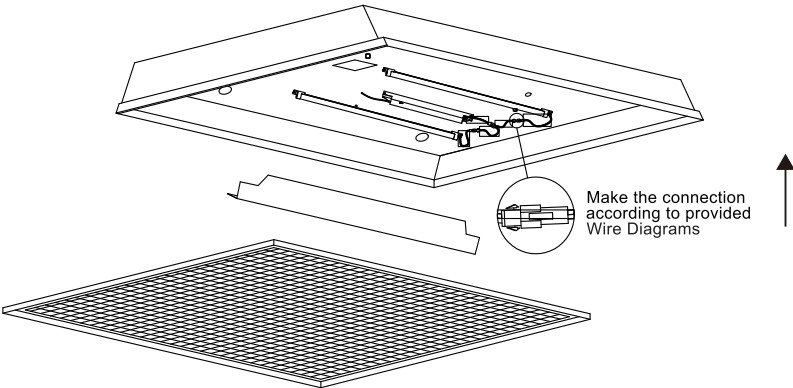

Figure 3
- 6) Connect the red and blue wires of the LED Light Bar harness to the LED Driver according to wiring diagrams. For 0-10V dimming circuits, use wire nuts (not provided) to connect incoming pink and purple wires to the LED driver's pink and purple wires. If no dimming circuit is present, cap off pink and purple wires. Affix the "Modification Sticker" visibly to the fixture. Reinstall housing cover and lens if applicable (Figure 3).